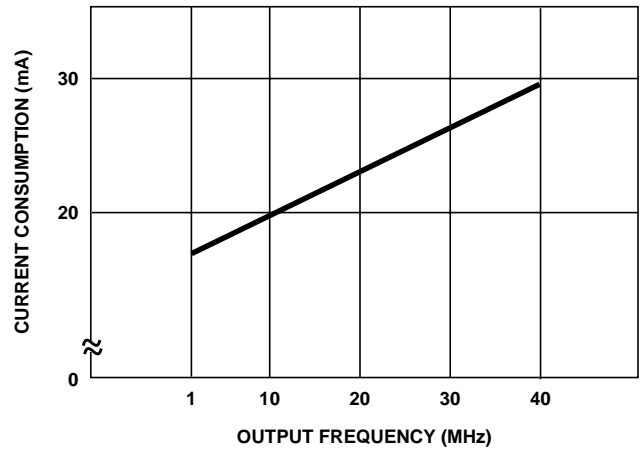

FIGURE 10. OUTPUT FREQUENCY vs CURRENT CONSUMPTION
- Standard Measurement Conditions and Description:  $V_{DD} = 5.0V$ ,  $V_{REF} = 2.0V$ ,  $R = 200\Omega$ ,  $16R = 3.3k\Omega$ ,  $T_A = 25^\circ C$ . The temperature characteristics of external input data in Figure 10 = all "0" and "1" of rectangular wave; clock frequency = 80MHz.